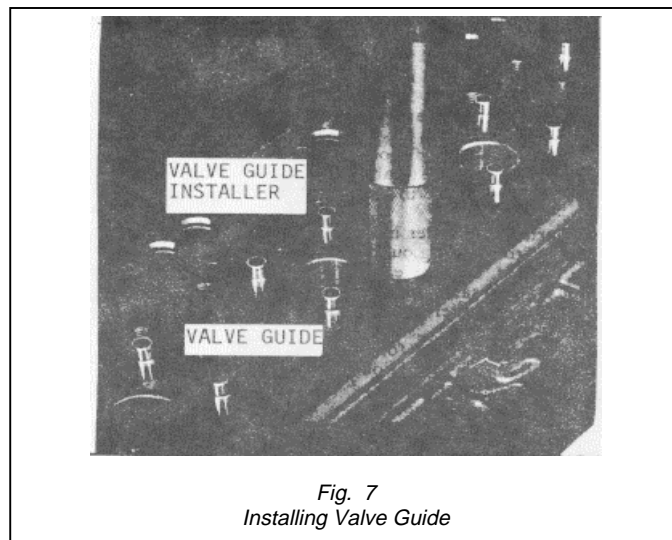

Fig. 7
Place the cylinder head right side up on an arbor press and install the valve guide (Fig. 7) as follows:
- (2) Position the valve guide squarely in the bore in the cylinder head and press the installing tool J21520 gently to start the guide in place (Fig. 7). Then press the guide in until the tool contacts the cylinder head. The tool installs the guide to .670" - .710" above the top of the cylinder head.